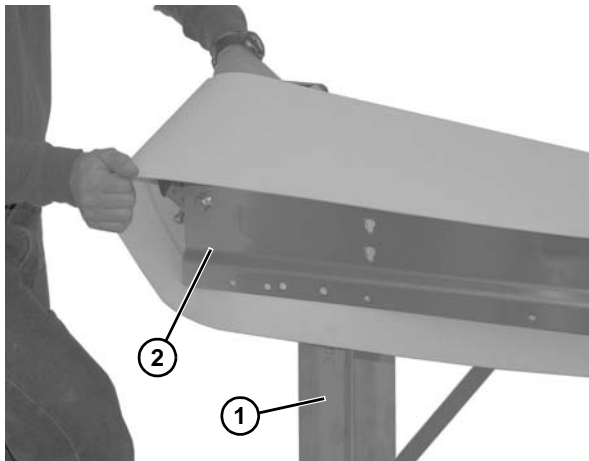

Figure 33
6. Remove the belt from under the stand (Figure 33, item 1) and from the conveyor (Figure 33, item 2) on both ends.